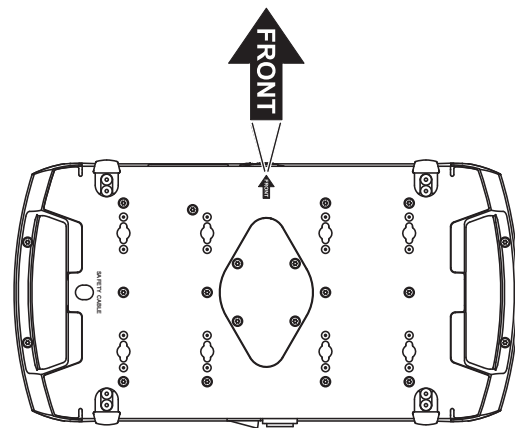

Figure 5: Front of fixture
4. Block access under the work area. See Figure 5. Note the position of the arrow marked **FRONT** on the base of the fixture. Working from a stable platform, hang the fixture on the truss with the arrow marked **FRONT** facing towards the area to be illuminated. Tighten the rigging clamps.